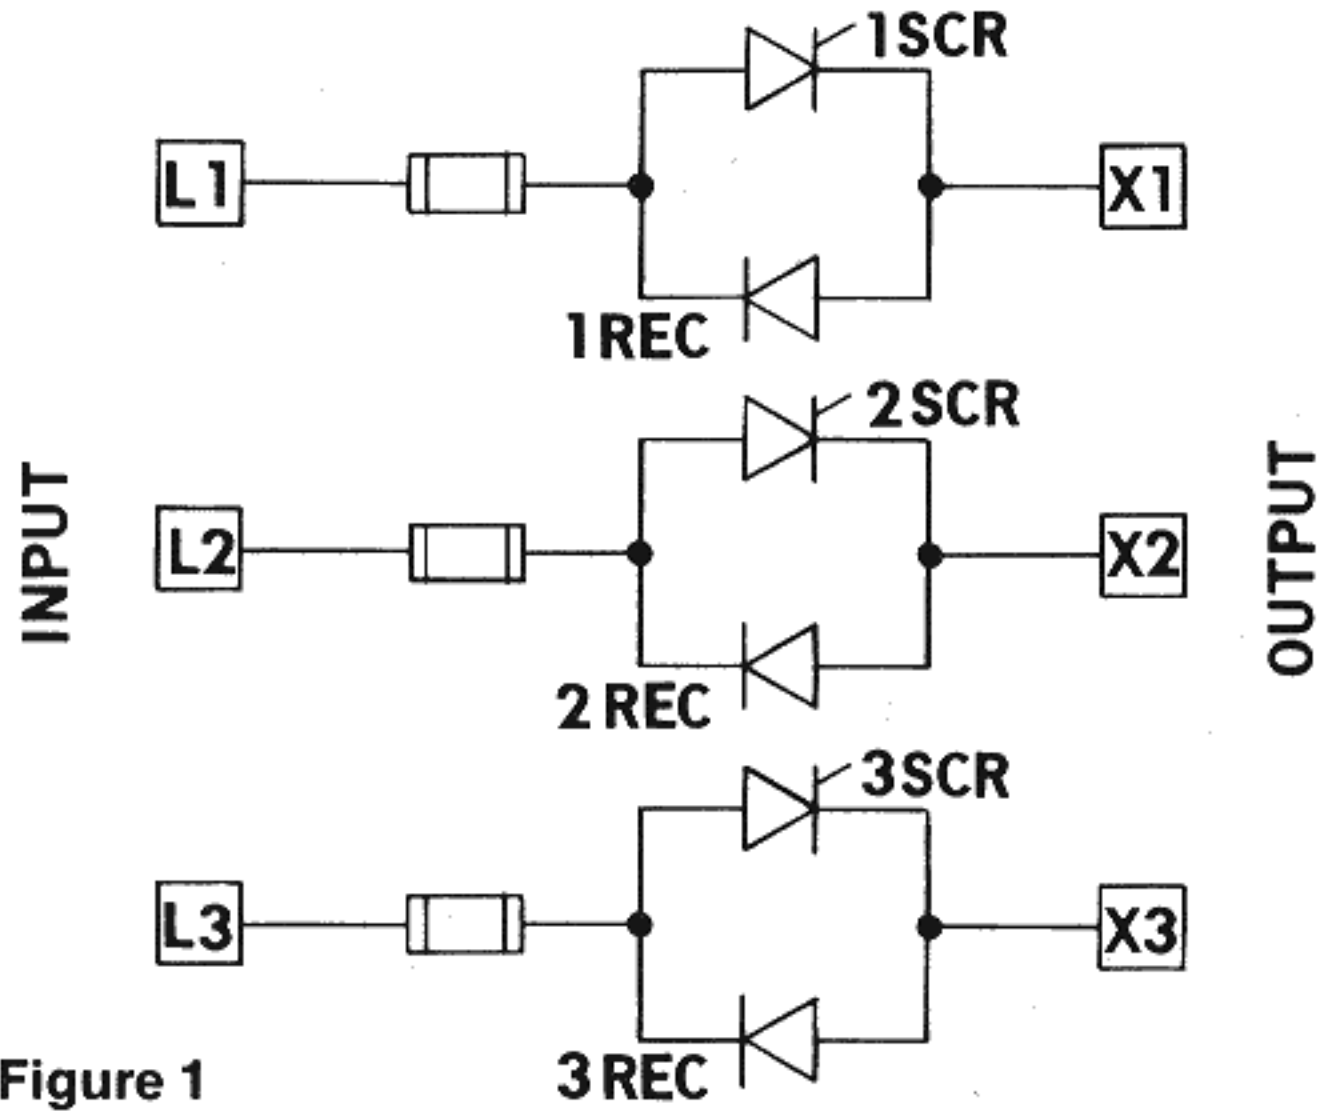
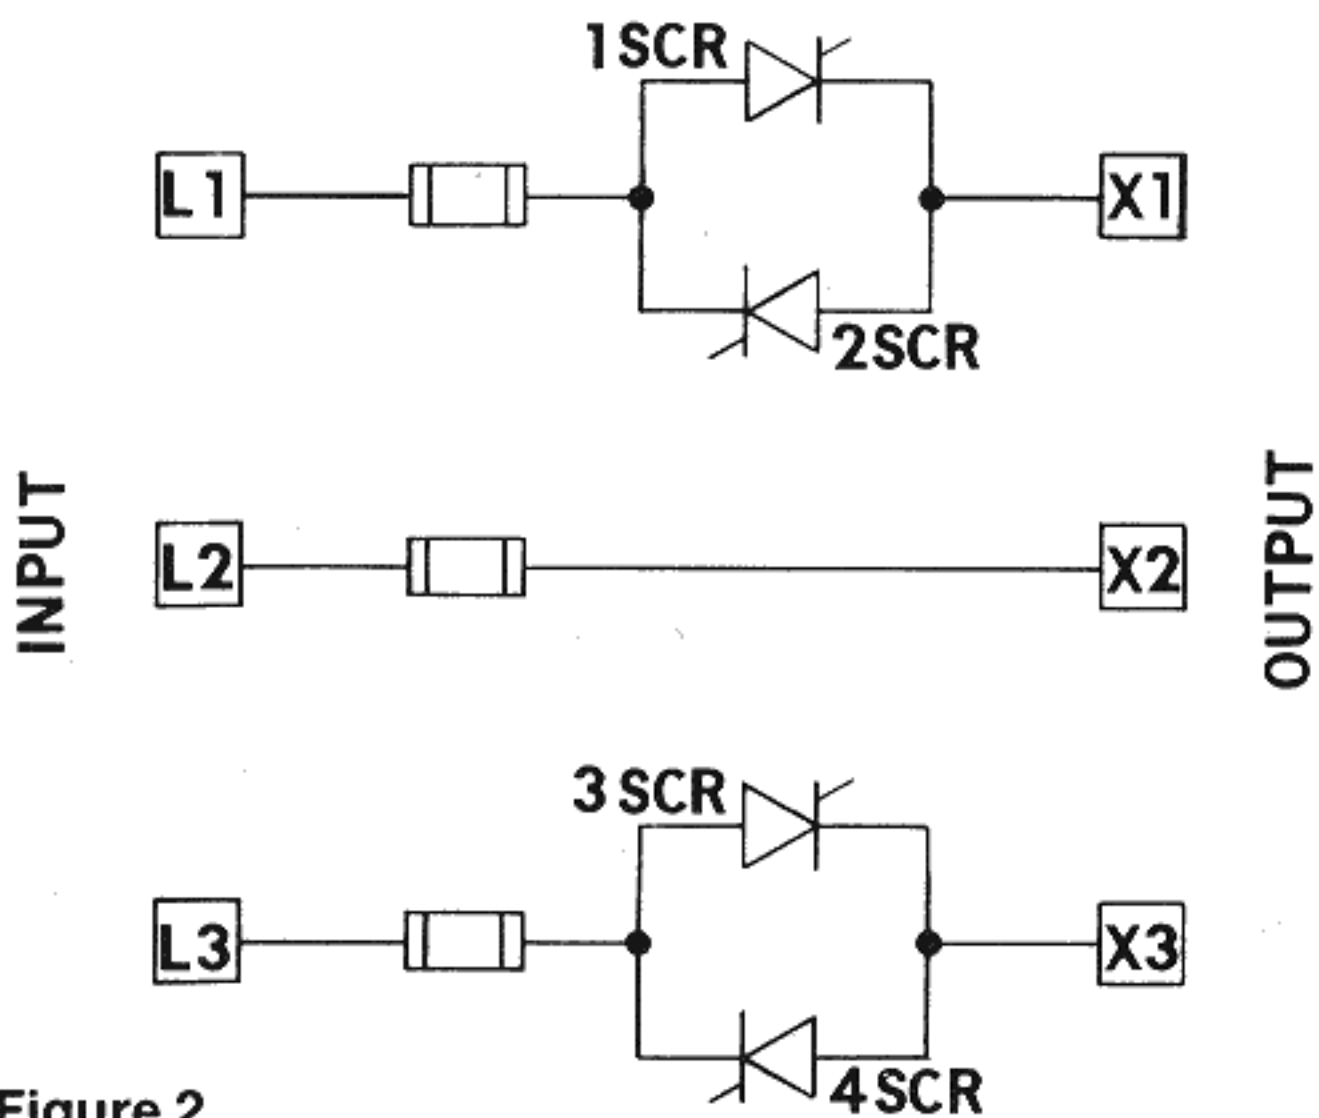

Figure 1
Figure 2
SPANG manufactures three types of synchronous Power Control Units: (a) a single phase version uses two SCRs connected inverse parallel in one line, and the other line is connected directly to the load (Figure 3); (b) the three phase version is designed in two types: two and three leg control (Figures 1 and 2).
Three leg control uses an SCR and a diode connected inverse parallel in each line to the load, (Figure 1). Two leg control uses two (2) SCRs connected inverse parallel in two of the three lines to the load, (Figure 2). Two leg control uses fewer power components and is more economical. Three phase loads may be either three wire Delta or Wye connected. If control is required to a four wire grounded neutral Wye load, it is recommended to use a three leg, six SCR Power Control Unit. These are available upon request.